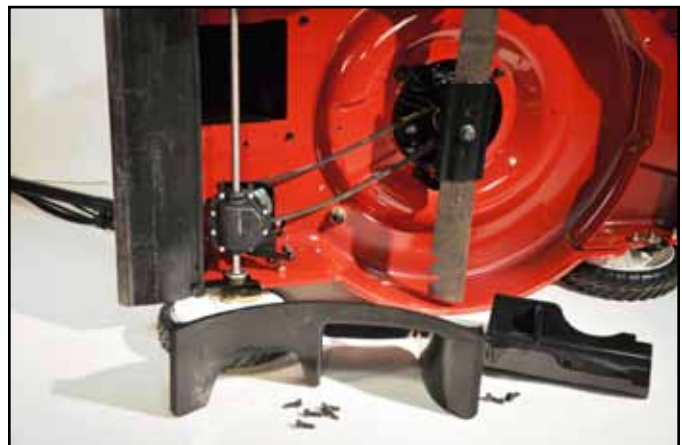

Fig. 139 003a
4. Tip mower on its side, air filter up. DO NOT tip the mower with the air filter side down. Remove the rear baffle and belt cover (Fig. 139).